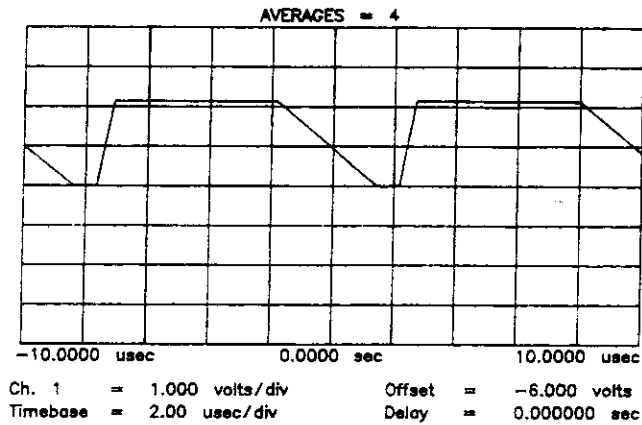

Figure 5-14b. Sample of Oscilloscope Display
- Adjust A3R620 (PRETUNE) for a voltage of $-6.0 \text{ volts} \pm 0.5 \text{ volts}$ at the bottom of the integrator waveform (the oscilloscope Delta V and marker functions can be used to set a reference line at -6V as a calibration aid). See Figure 5-14b.